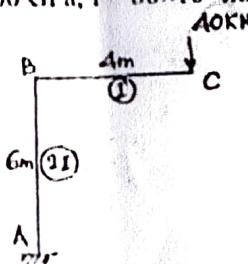

Fig.Q7(b)
- b. Determine the vertical deflection at C of a bent frame shown in the Fig.Q7(b). Use Castiglione's approach. Take  $E = 200 \text{ GPa}$ ,  $I = 80 \times 10^7 \text{ mm}^4$ .